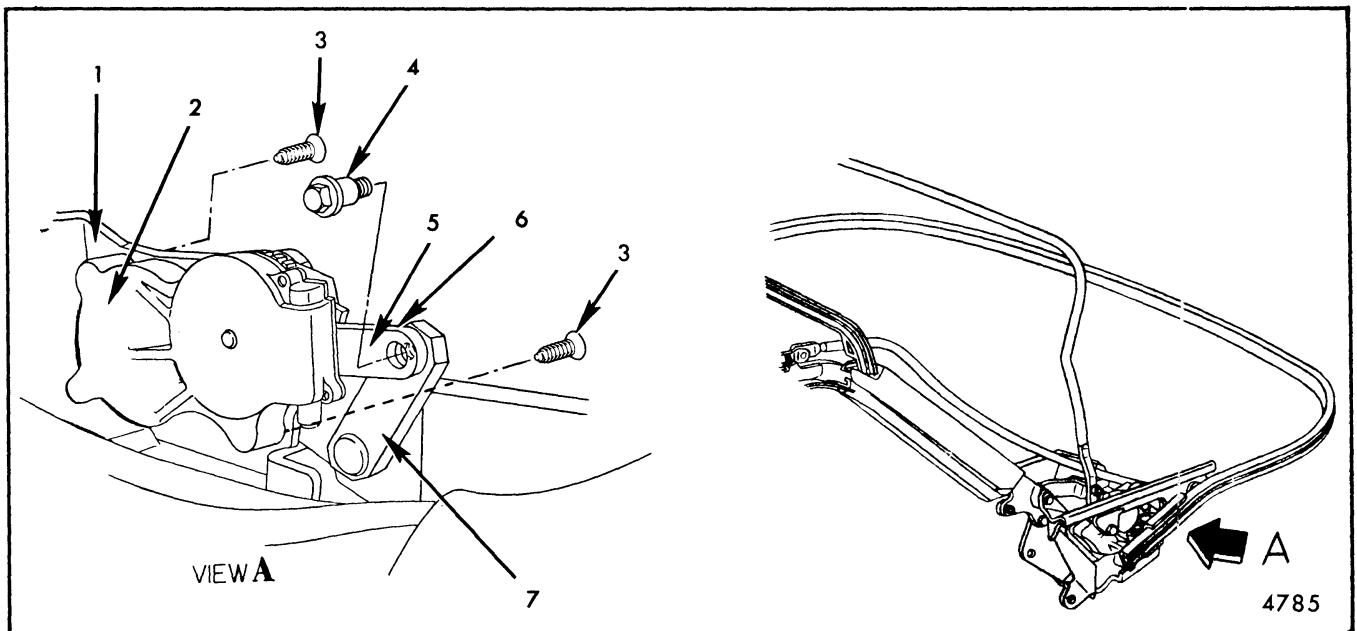

Fig. 8-70-Folding Top Actuator Attachment (View in Direction of Arrow "A")
A folding top actuator assembly is secured to each main hinge by three attaching screws (Fig. 8-70) and to the side rail system by a shoulder bolt. The shoulder bolt threads into the actuator link and is locked in place with a set screw. Actuator assemblies are operated by electrically powered drive cables.
4. Remove actuator attaching screws (Fig. 8-70).